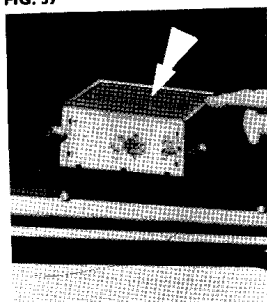

FIG. 41
1. Fig. 41. Hinge open the cover from the bottom.